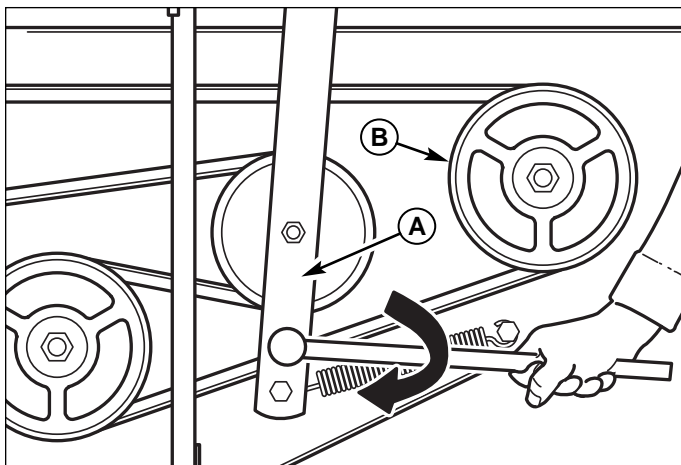

Figure 50. Spindle Drive Belt Removal
3. Using a 1/2" breaker bar, place the square end in the square hole located near the end of the idler arm (A, Figures 50). Carefully rotate the breaker bar **CLOCKWISE**, which will relieve the tension on the belts exerted from the idler arm.
4. Remove the belt from the trim side spindle pulley (B, Figure 50).